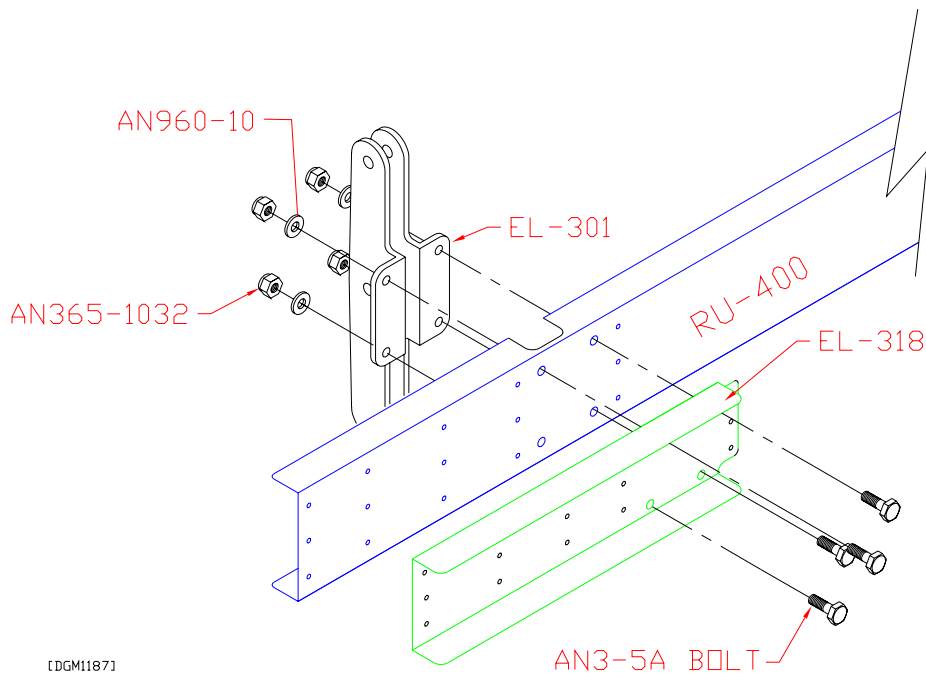

Figure 5.4.1
1) Install the Elevator/Rudder Horn to the bottom of the Rudder as in Figure 5.4.1. **NOTE:** The Rudder is shown exploded for clarity only. You will also have to notch out and radius the two flanges on the RU-400 in that area to accommodate the EL-301 Horn. See figure 5.4.1 for location.